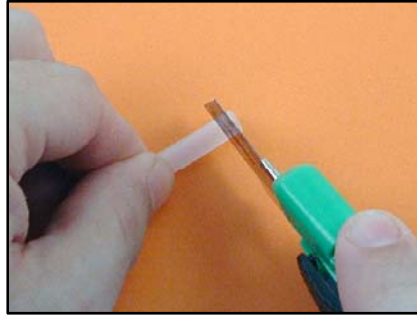

Figure 5
- 14.) Attach a round servo horn, from one of the included servos, to the bottom of the turret pivot using two #2 x 5/16" screws as shown in Figure 5 and 6 below.